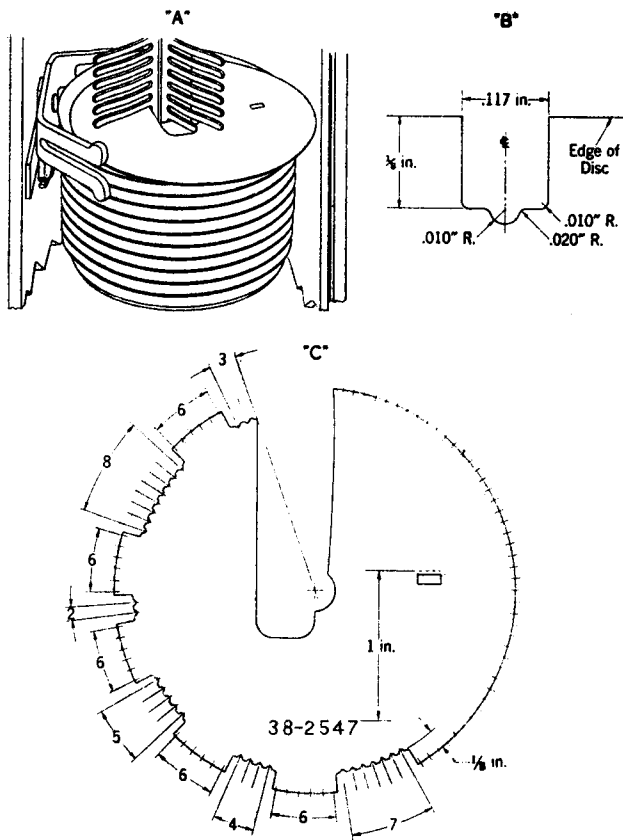

Fig. 2—Details of Discs for D-97807 Dial
3.06 Fig. 2 (A) shows a partial view of the discs in the rear of the dial. To remove a disc rotate the knob on the right-hand side of the dial until the window in the indicator is over the position desired. This will place the slot in the forked bracket at the left of the discs in a position where the edge of the disc to be removed can be viewed directly through the slot. Pull forked bracket outward. This will cause the disc to come part way out of its mounting space. It can then be completely removed by hand.
3.07 The rotor shaft and a reference bar at the outer edge of the rotor are used for locating the discs. Each disc is held against the shaft and bar by a spring which engages one edge of the mounting slot in the disc. To install a disc it is grasped between the thumb and forefinger at a point opposite the mounting slot and inserted over the shaft in the desired position without force until it strikes the inner edge of the reference bar, when it is pulled about 1/4 inch toward the side of the dial on which the operating lever is located. This deflects the spring and allows the corner of the mounting slot to slide into position against the side of the bar, while the semi-circular notch at the center of the disc snaps over the shaft. See Fig. 2 (A).
3.08 Fig. 2 (C) shows a disc cut to dial 38-2547. This disc shows six spaces between digits which is the spacing used in step-by-step areas. In panel areas four spaces are provided between digits.
3.09 The details given in Fig. 2 (B) and (C) are shown as a matter of information only as the discs are cut in the shop and are ordered cut to call particular telephone numbers.